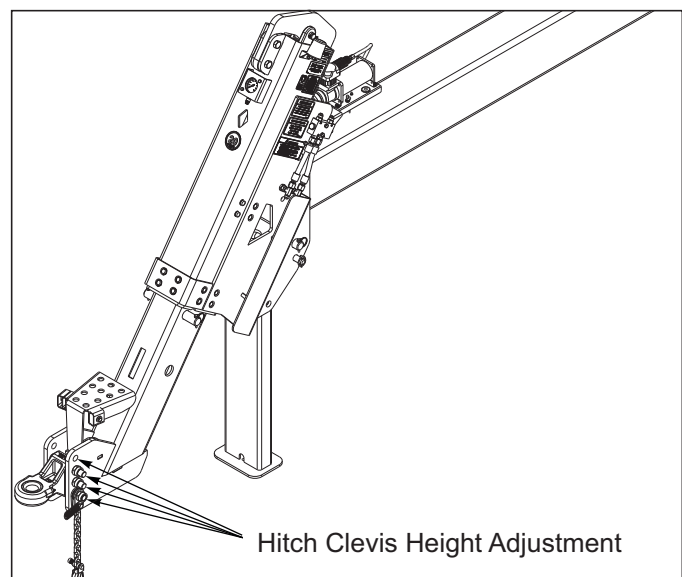

Figure 4-3: Hitch Clevis Height
2. Measure the tractor drawbar and adjust the hitch clevis to the appropriate hitch mounting holes *See Figure 4-3.*
1. The hitch clevis height should be adjusted to match the drawbar height of the tractor. This will allow the telescoping hitch to operate through its most efficient range and level throughout the field **See Figure 4-3.**
2. Make sure the hitch clevis is adjusted for the proper tractor drawbar height *See Figure 4-3*.